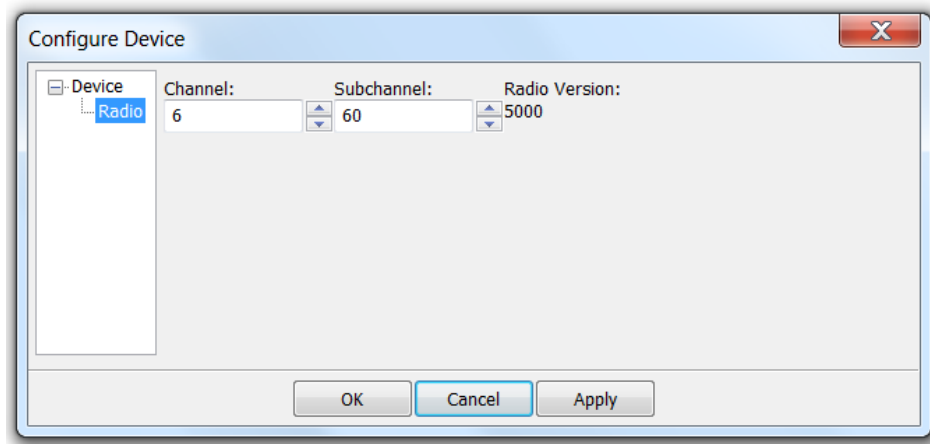

Figure 3. Channel and subchannel configuration in Device Setup
- Double click on the radio sub-menu to configure your radio properties (Figure 3). The channel and sub channel have to be set to the same channel and sub channel as the Em50R's to collect data from at this DataStation.